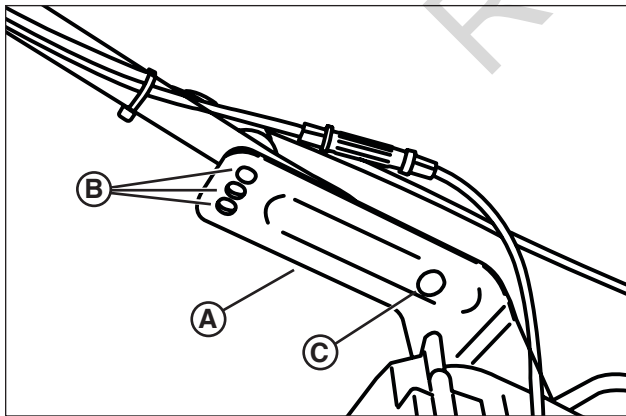

Figure 8: Adjusting the handle height
1. Remove the handle knobs, washers and carriage bolts from the lower handle (A, Figure 8).